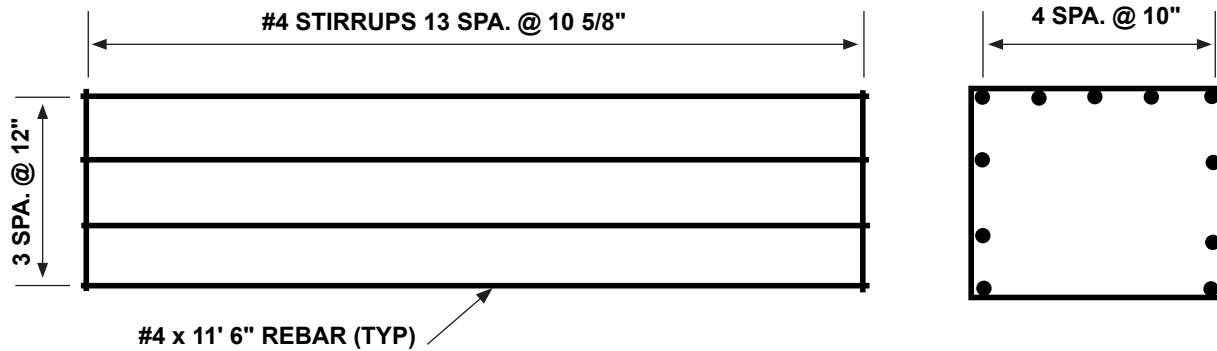

Figure 2
3. If macro synthetic fibers are not used, a rebar cage can be utilized for reinforcement instead, see Figure 2. The rebar cage is placed with a minimum of 3" [75 mm] clearance on all sides and can be tack welded or tie wired.